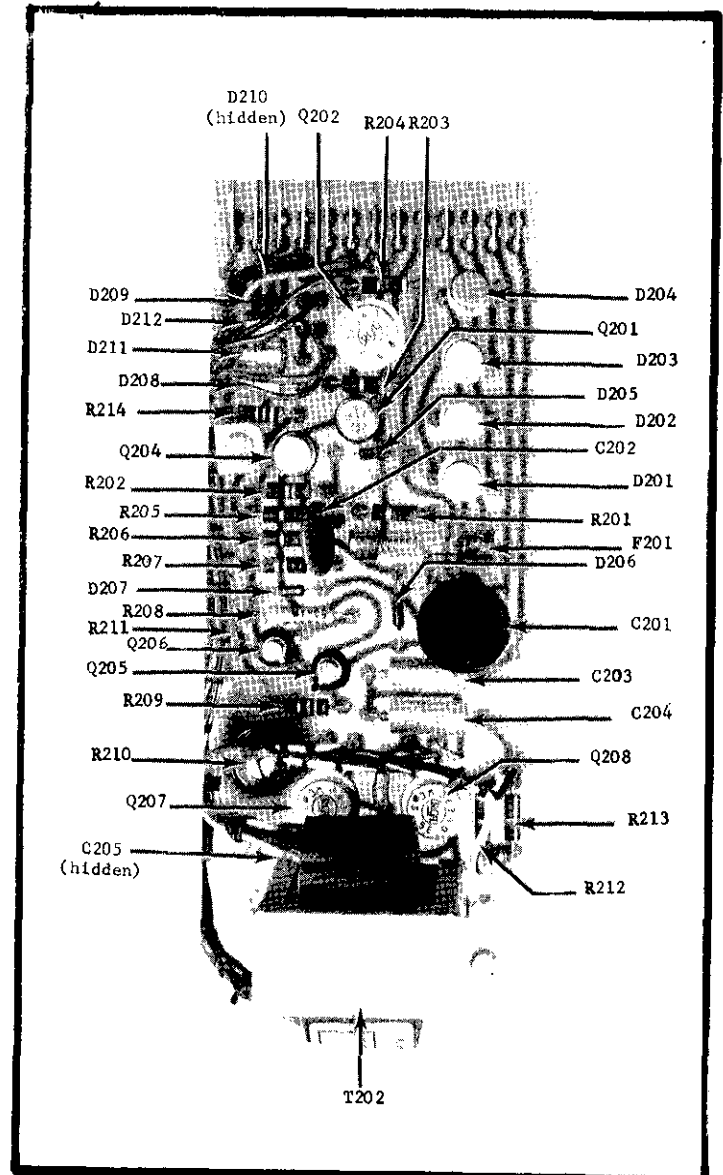

FIGURE 18. Component Locations on -6.3 volt Power Supply, PC104.
b. Connect the Type 503 Oscilloscope Vertical Input to the plate and low side of tube V1003 (Figure 15) and the Horizontal Input to the Model 200CD Oscillator. Adjust the oscillator frequency to approximately 94 cps with potentiometer R210 (Figure 18). The Model 630 oscillator is then adjusted for minimum meter noise — normally within a cycle of 94 cps. Disconnect the Oscilloscope before adjusting potentiometer R210. The Oscilloscope will cause a small loading error.